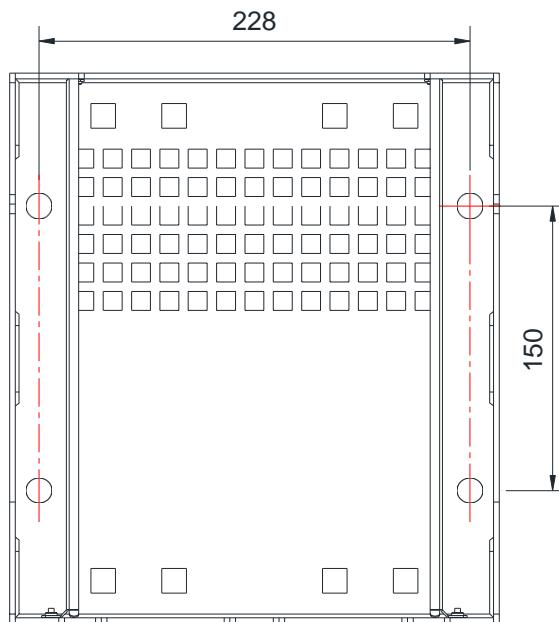

Figure 4 Wall-mounting Drilling Dimension Diagram
Step1: Remove the mounting rack from the MRU, use percussion drill to drill 4 pole of $\Phi 14$ with 65-75 mm depth, as shown in Figure 4.